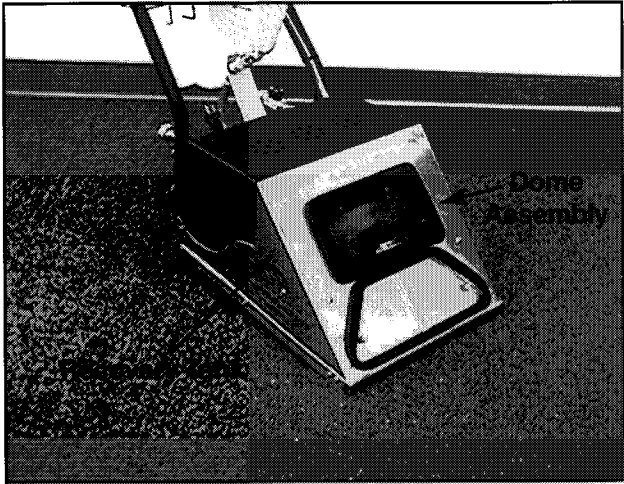
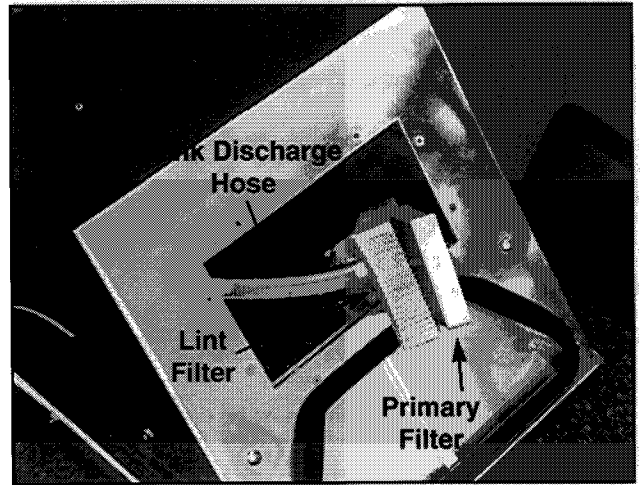

FIG.1-Dome Assembly
FIG.2-Water Filter Cleaning
3. Check the **fresh water filter** in the solution hose (item 16 in the hose parts list) for damage or debris. Holes in the screen can allow contaminants to enter the solenoid resulting in costly repairs. A clogged filter will reduce performance and may cause permanent damage.
5. Remove the clear **dome assembly (figure1)** which is located on the recovery tank .
- b) The **air filter screen** (item 71) should be clean of debris and checked periodically for any damage, replace if necessary.
- c) Clean the **water filter (figure 2)**. It is a dual stainless steel filter with an **outer lint filter** (item 68) and an **inner primary filter** (item 69). Swing them out of the recovery tank. By sliding the lint filter up the recovery tank discharge hose, both the top and bottom of the primary filter can be cleaned. Also check for any damage, replace if necessary.